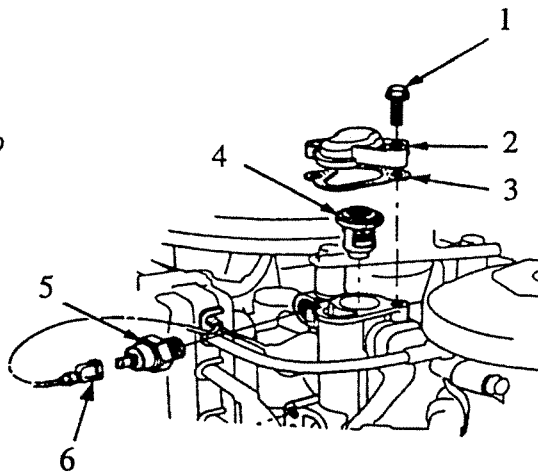

Fig. 29-2. Thermostat and Thermo Switch
Remove the two 6 x 20mm screws (1) securing the thermostat cover (Fig. 29-2).
The switch is located next to the thermostat housing (Fig. 29-2).